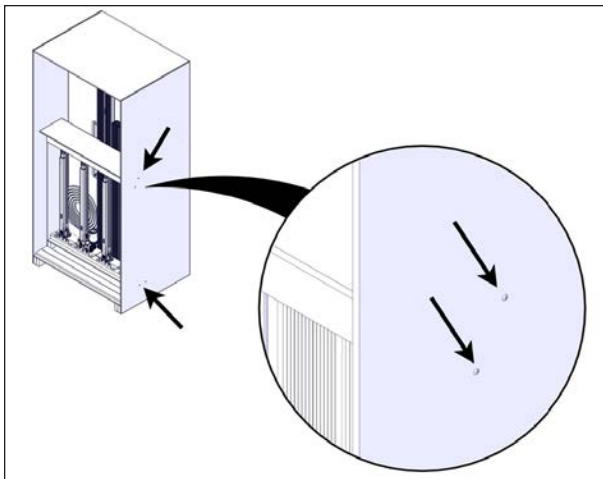

FIGURE 20: JACK BOX REMOVAL
10. Unscrew the Robertson #8 x 1.5" screws holding the jack box – four screws per side: two screws at the top, two screws at the bottom, see Figure 20.